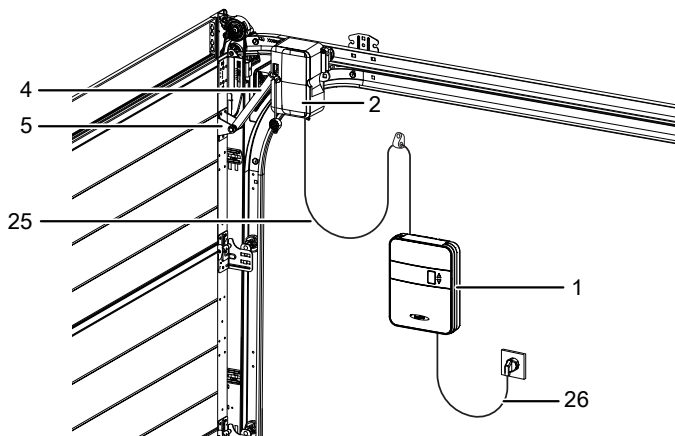

Fig. 1: Product overview – assembled
For garage doors with a wicket door, a wicket door contact (accessory) must be installed and connected to the motor head (2) (fig. 12a). Loosen the screws of the cover at the motor head (2) and remove the cover (Fig 12b). Break out the tab on the side of the motor head housing with a pair of pliers (fig. 12c). Route the connection cable along the lever arm (4) and attach it with cable ties. Make sure that the cable has sufficient freedom of movement (fig. 12d). Connect the cable of the wicket door contact to the terminal block (fig. 12e). Put the cover back on the housing and screw it down (fig. 12f). After having installed the wicket door contact, remove the 8k2 resistor at terminal G in the control unit. See also fig. 1 in chapter "Connection diagram overview".